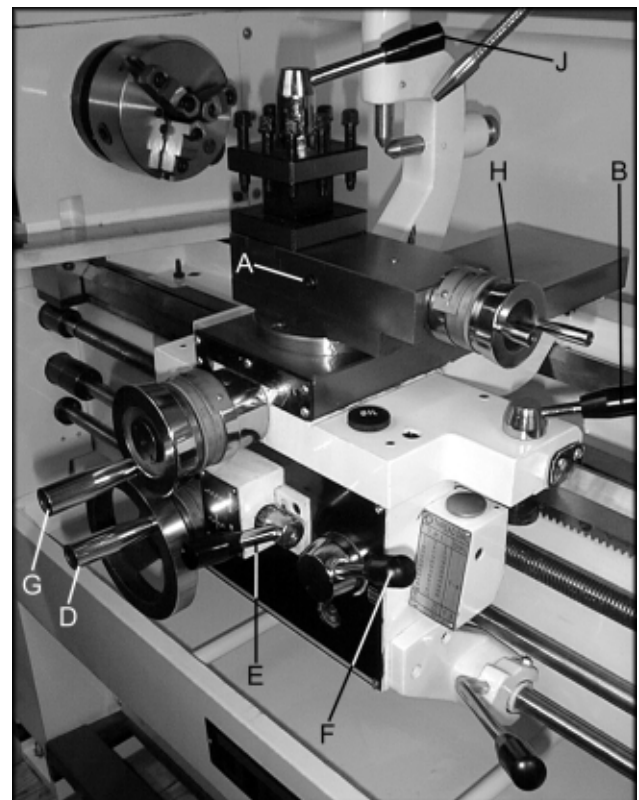

Fig. 14
8. **Compound Lock** (A, Fig. 14) - hex socket screw located on left side of compound. Turn clockwise to lock and counter-clockwise to unlock.
9. **Carriage Lock** (B, Fig. 14) - lock handle located on top of carriage. Turn clockwise to lock. Turn counter-clockwise to unlock.
10. **Longitudinal Traverse Hand Wheel** - (D, Fig. 14) - located on the apron assembly. Rotate hand wheel clockwise to move the apron assembly toward the tailstock. Rotate the wheel counter-clockwise to move the apron assembly toward the headstock.
11. **Feed Selector** (E, Fig. 14) - located in the center front of the apron assembly. Pushing lever to the left and down activates the crossfeed function. Pulling lever to the right and up activates the longitudinal function.
12. **Half Nut Engage Lever (thread cutting)** (F, Fig. 14) - located on front of the apron. Move the lever down to engage. Move the lever up to disengage.
13. **Cross Traverse Handwheel** (G, Fig. 14) - located above the apron assembly. Rotate clockwise or counter-clockwise to move, or position.
14. **Compound Rest Traverse Handwheel** (H, Fig. 14) - located on the end of the compound slide. Rotate clockwise or counter-clockwise to move, or position.
15. **Tool Post Clamping Lever (J, Fig. 14)** - located on top of the tool post. Rotate counter-clockwise to loosen and clockwise to tighten.